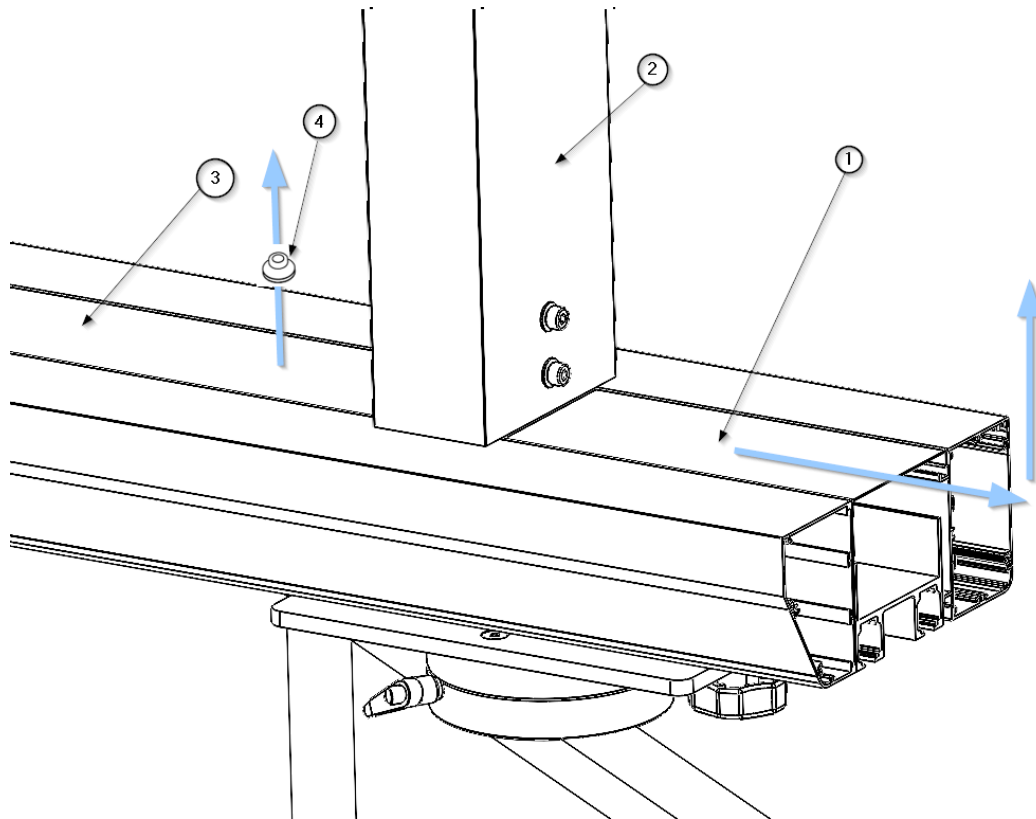

Fig. 10 Removing the main body covers
- Carefully remove the side panel ② and place it in a safe place.
- First attach the end cap ② by supporting the side tabs ③ in the slots of the main body and secure it with the 2 M4 x 16 hexagon socket screws ①.
- Check that the side wall ② is properly fixed.
- Now move the upper covers of the main body ① closest to the pressure sides with your hands, first moving them in the direction of the main body and, once the downpipe ② has been saved, pulling them upwards. See figure 10.